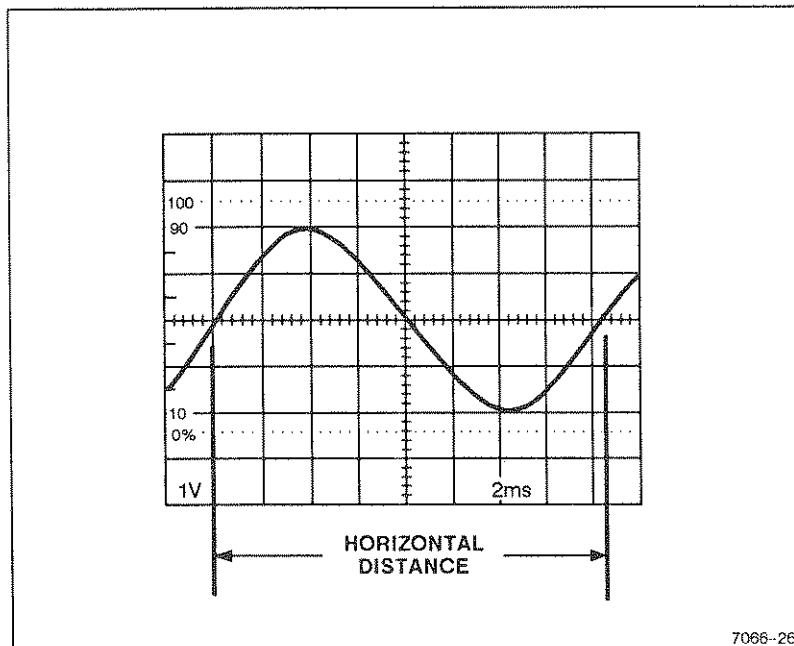

Figure 6-5. Time Duration.
5. Position the display to place the time-measurement points on the center horizontal graticule line (see Figure 6-5).
**EXAMPLE:** The distance between the time-measurement points is 8.3 divisions (see Figure 6-5), and the A SEC/DIV switch is set to 2 ms. The X10 Magnifier switch is pushed in (1X magnification).
**EXAMPLE:** The signal in Figure 6-5 has a time duration of 16.6 ms.